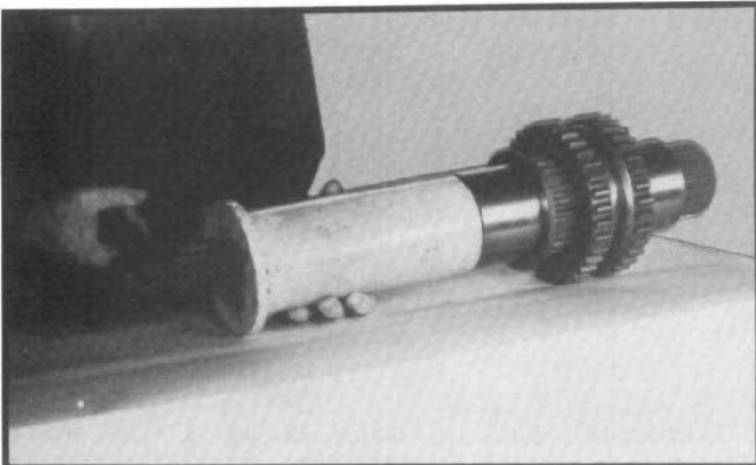

Fig. 112
- 2.3 Tap the needle bearing inner races over each end of shaft with a suitable driver. The wider inner race is located on the front side of the shaft and the shorter race is located on the rear side. (The needle bearing inner race must be snug against the thrust washer.) (See fig. 112.)